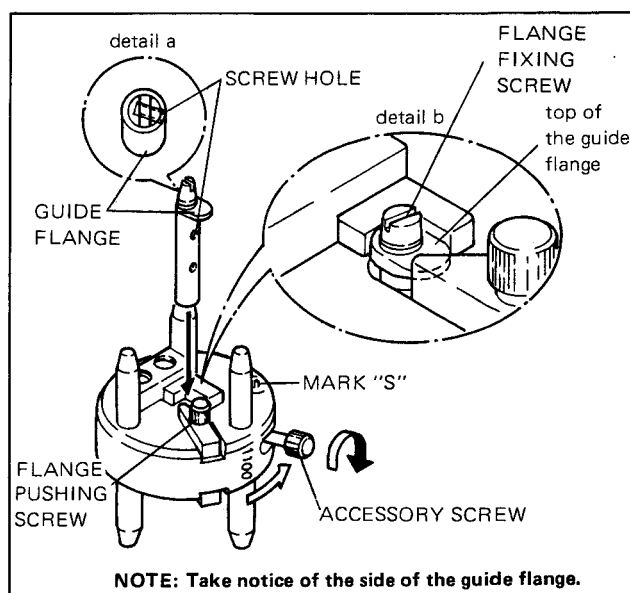

Fig. 6-25. Assembly of Entrance Guide Flange and Guide Post
4. Set the guide post and the flange as shown in the detail "a" of Fig. 6-25, and tighten the flange fixing screw lightly so that the flange can move.
5. Place the surface marked with "S" of the guide flange fixture upward, and place the guide post as shown in the detail "b" of Fig. 6-25.
12. Reassemble the guide referring to Fig. 6-25, but do not tighten the C4×20 locking screw firmly.